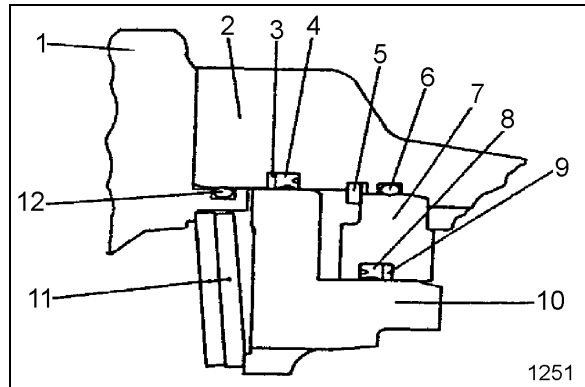

Figure 198
14. Install two cup springs and center them (noting installation position in Figure 198).